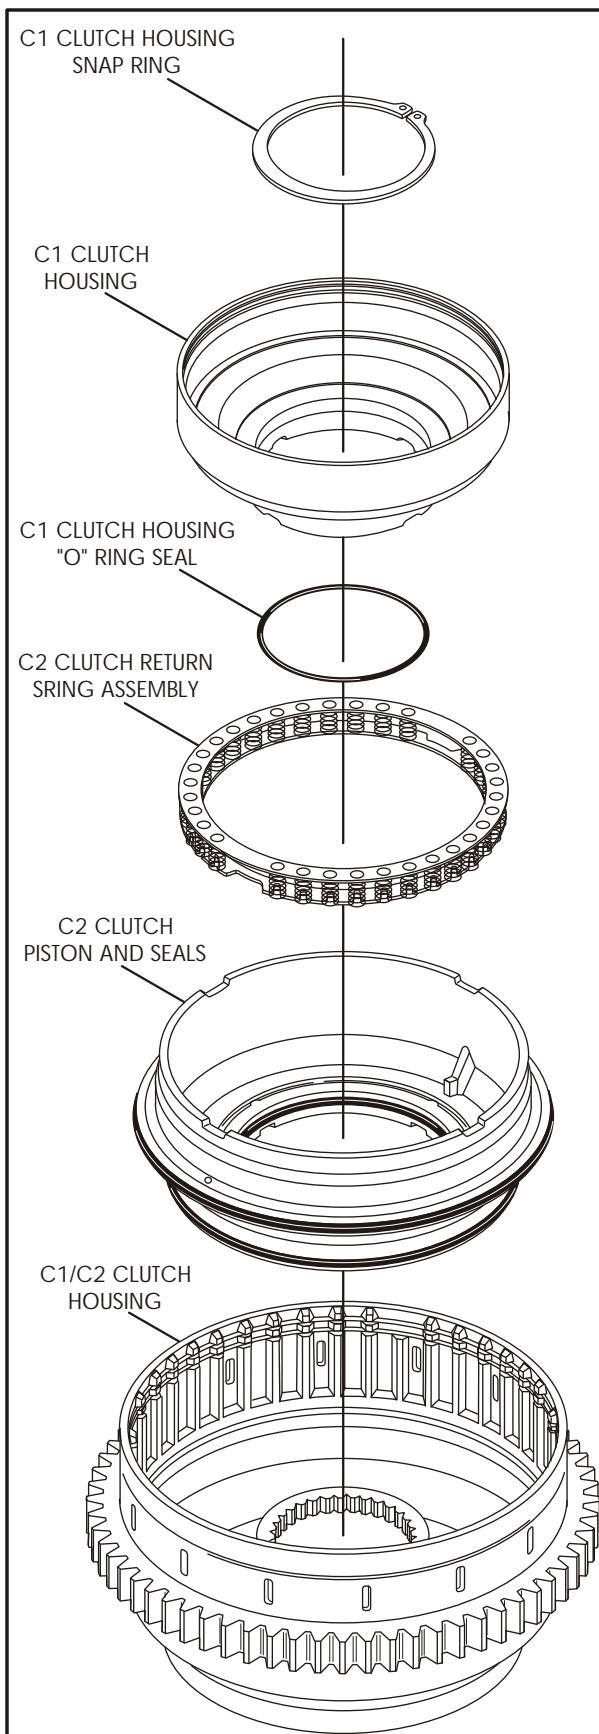

Figure 105
10. Install the C2 clutch piston and seals into the C1/C2 clutch housing as shown in Figure 105. ***Note: Care should be used during assembly so as not to damage piston seals.***
11. Install the C2 piston return spring assembly on top of the C2 piston in the housing, as shown in Figure 105.
13. Lubricate the installed "O" ring seal and inside diameter of the C1 clutch housing with a small of TransJel®, and install the C1 clutch housing as shown in Figure 105.